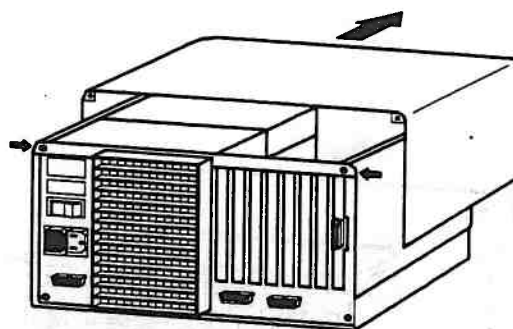

Figure 5-48. Removing the Upper System Module Cover
1. Loosen the two screws that secure the upper cover to the System Module (Figure 5-48).